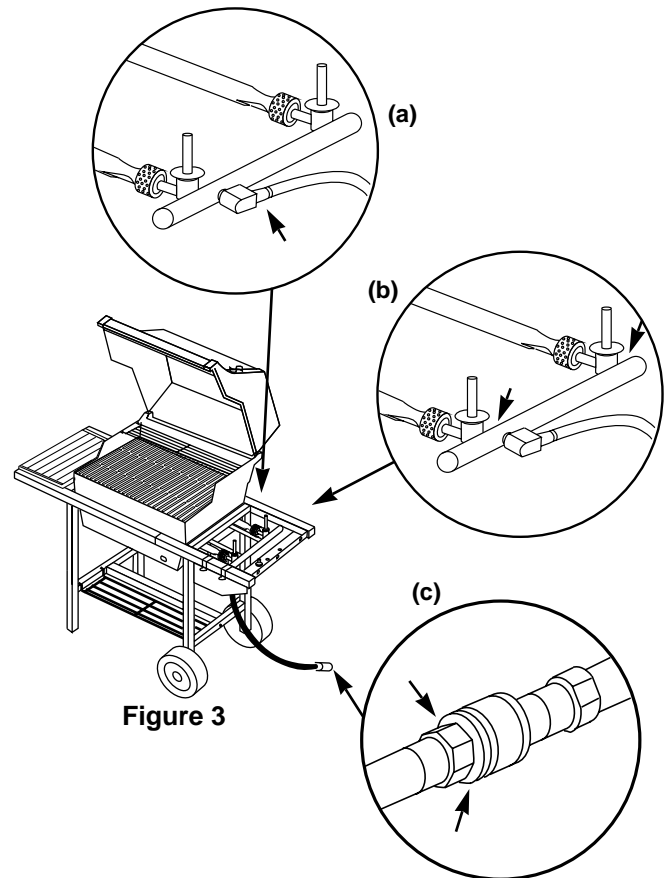

Figure 3
a) Hose to manifold connection. Figure 3 (a).
⚠WARNING: If there is a leak at the hose to manifold connection, Figure 3 (a), retighten the hose fitting with a wrench and recheck for leaks with soap and water solution.
b) Valves to manifold connections. Figure 3 (b).
c) The hose to quick disconnect connection. Figure 3 (c).